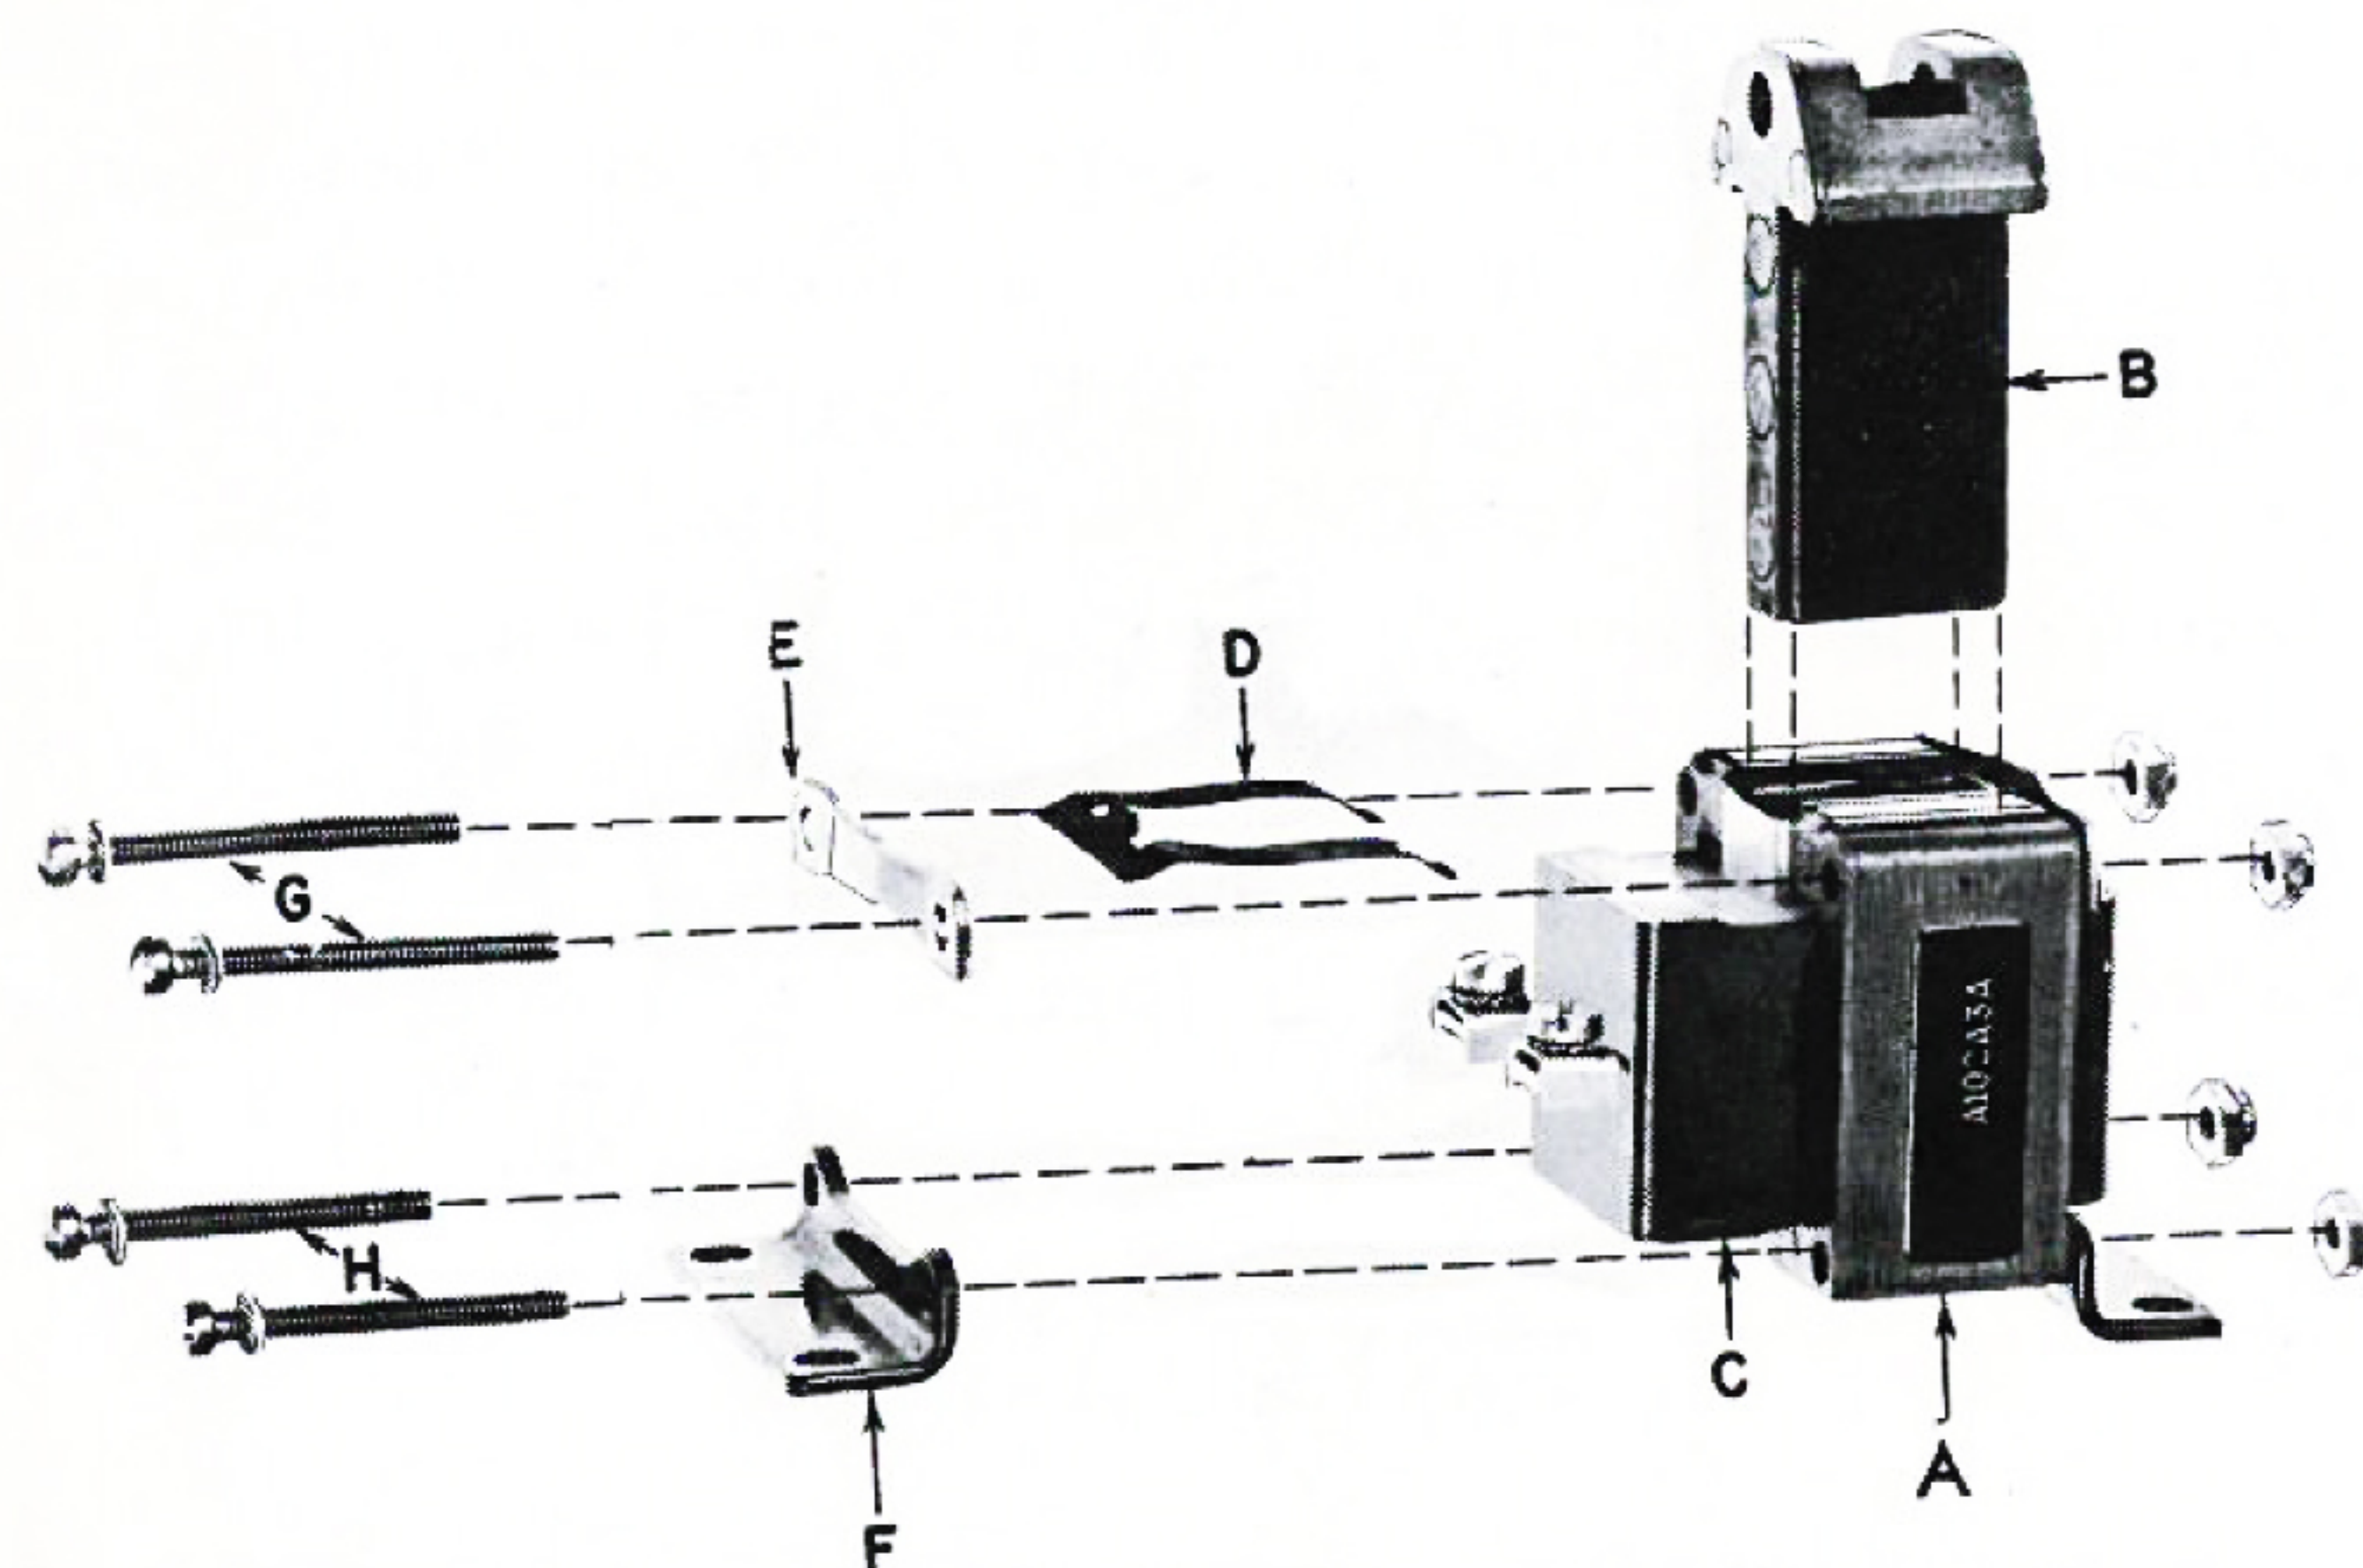
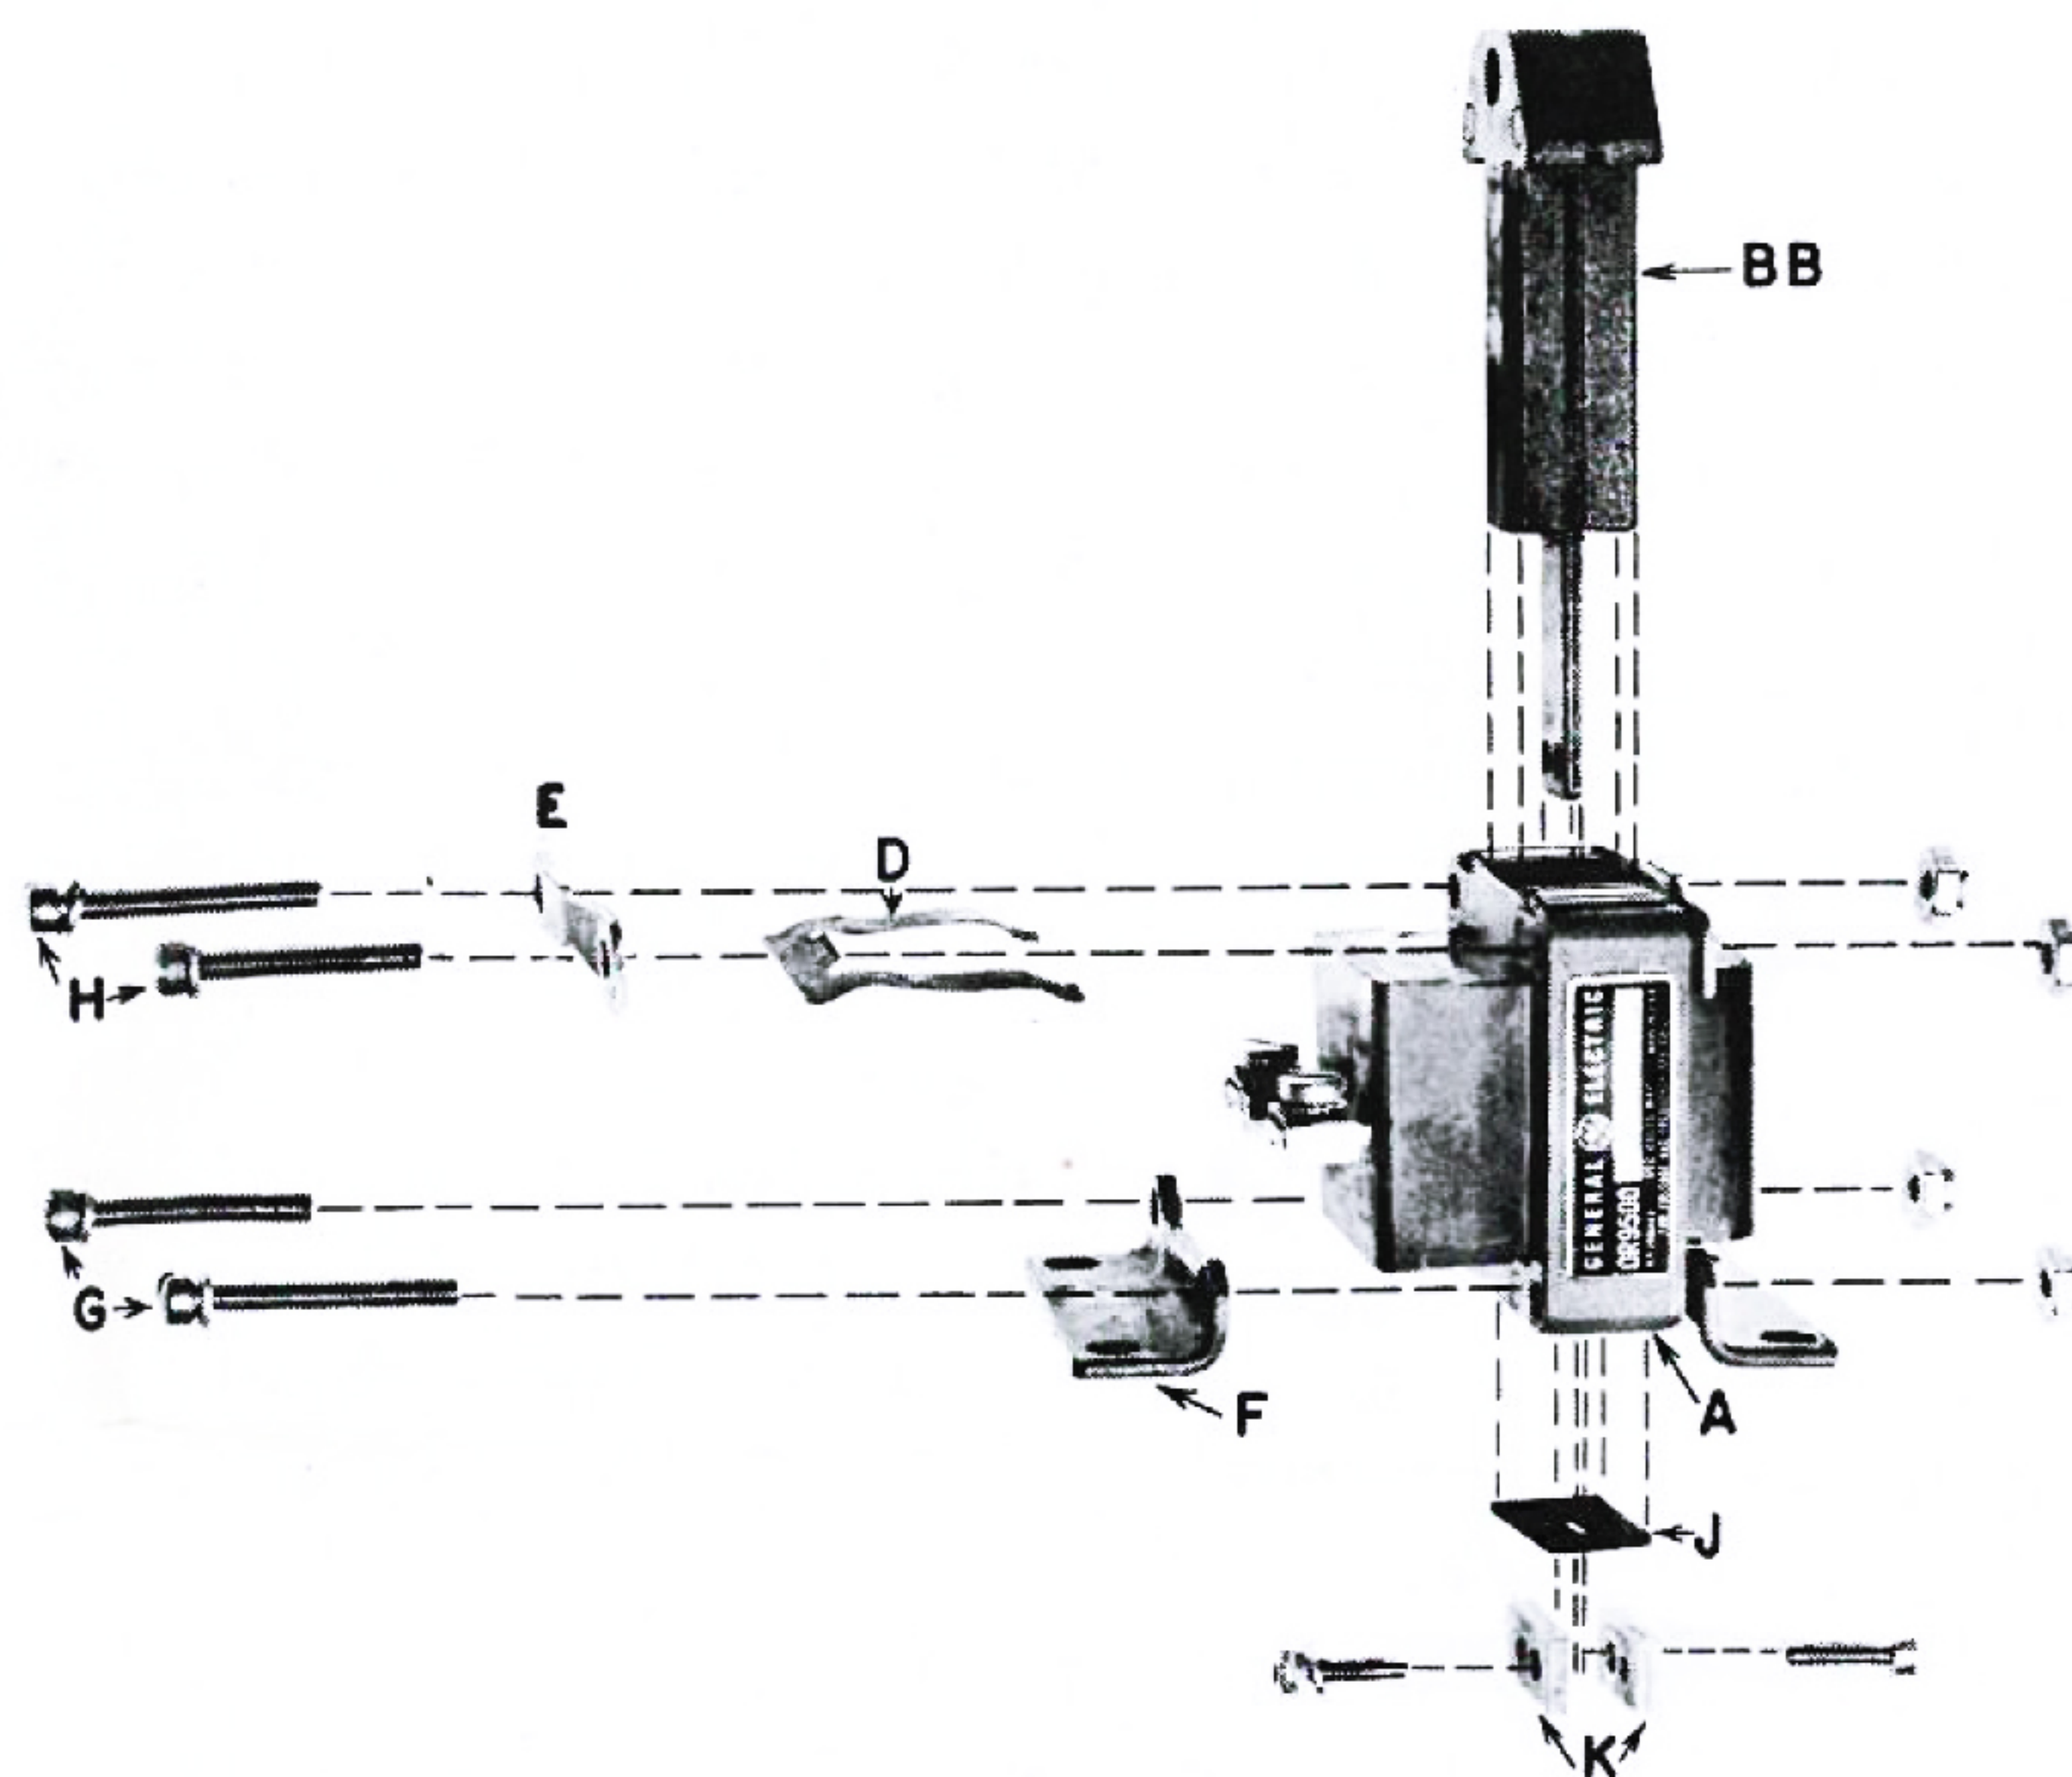

Fig. 4. Exploded view of CR9500 pull-type solenoid, end mounted
Fig. 5. Exploded view of CR9500 push-type solenoid, side mounted
The recommended maximum stroke should not be exceeded. The stroke of the push type can be adjusted in $\frac{1}{8}$ -inch steps, from one inch to $\frac{5}{8}$ inch, and from $\frac{1}{2}$ inch to $\frac{1}{8}$ inch by changing the number of synthetic rubber pads. (See part J, Fig. 5.)
The end-mounted solenoid can be changed to a side-mounted solenoid as shown in Fig. 4 and 5. Corresponding parts in each figure have the same part identification.
1. Remove the plunger B (Fig. 4). On push type (Fig. 5), first remove stop blocks K and pad J before plunger BB.
3. Remove the screws G (Fig. 4), G and H (holding bracket E, Fig. 5), and remove bracket E.